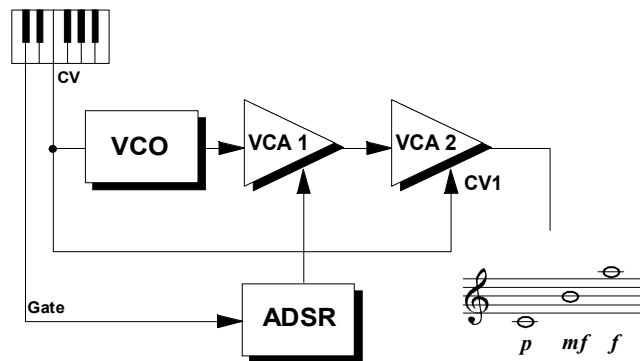

Fig. 7: Keyboard tracking - the higher the pitch, the louder the output
In the example in Fig. 7, high frequency notes are amplified more than low frequency notes. Use control ① on **VCA 2** to vary the degree of keyboard tracking.